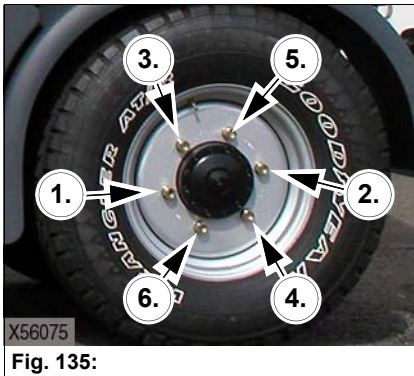

Fig. 135:
- Tighten the wheel nuts with torque 280^{+20} Nm (see page 5-6) crosswise as shown in Fig. 135